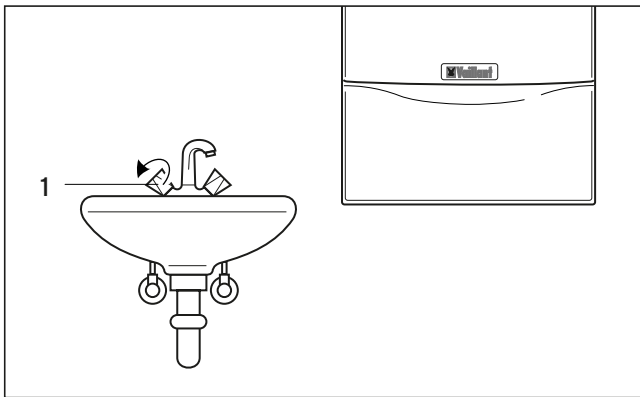

Fig. B.7 Obtaining hot water (ecoMAX 800 series only)
On opening a hot water tap (1) fig. B.7) at a supply point (basin, shower, bath, etc) the ecoMAX 800 series boiler will automatically operate to deliver hot water. On closing the tap the boiler switches OFF (or continues to operate for central heating if required). The pump and fan will continue to operate for a short period.